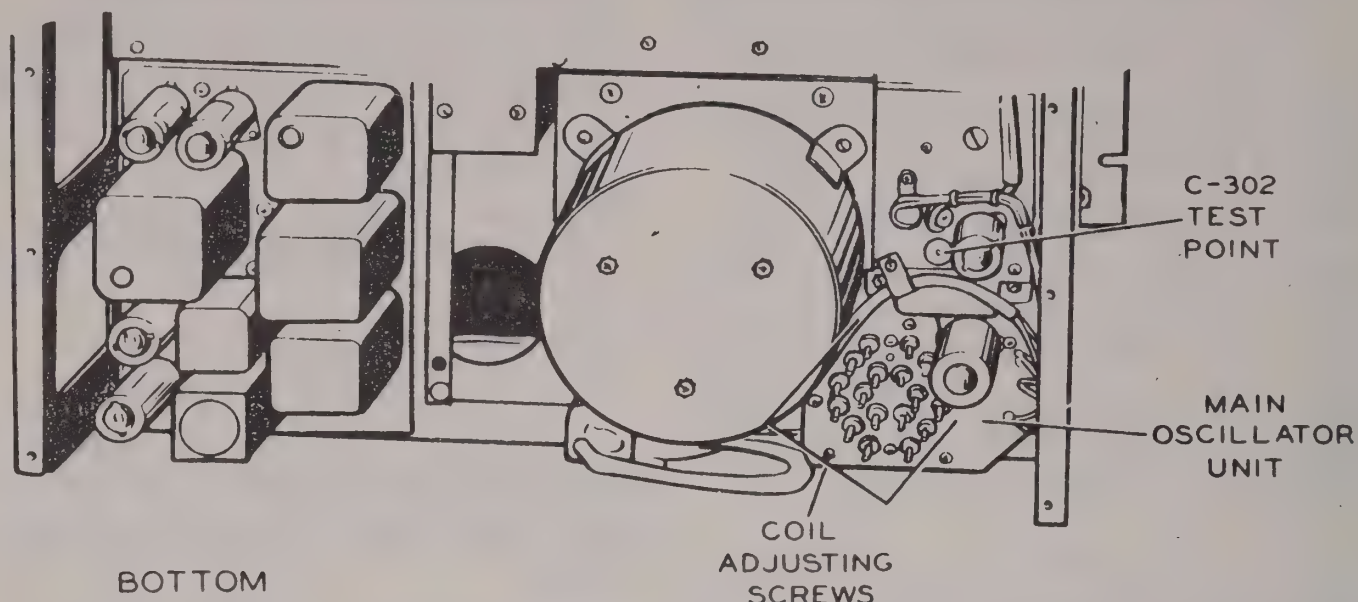

Figure 2-6 Radio Receiver R-278 ( )/GR, Partial Rear View,
(1) Remove the receiver from the mounting rack, remove the dust cover, and place the unit on a test bench.
(2) Remove the rear frame plate from the receiver and locate the coil adjusting screws at the lower right corner of the equipment. See Figure 2-6.
(3) Connect an a-c power cable from the receiver to an a-c outlet.
(4) Plug the headset into the PHONES receptacle on the front of the receiver.
(5) Pull the interlock switch on the rear of the receiver to its full outward position and set the TRACKING CONTROL switch to NORMAL.
(6) Adjust and connect the VTVM in the following manner:
(c) Attach the DC probe to C-302 TEST POINT. See Figure 2-6.